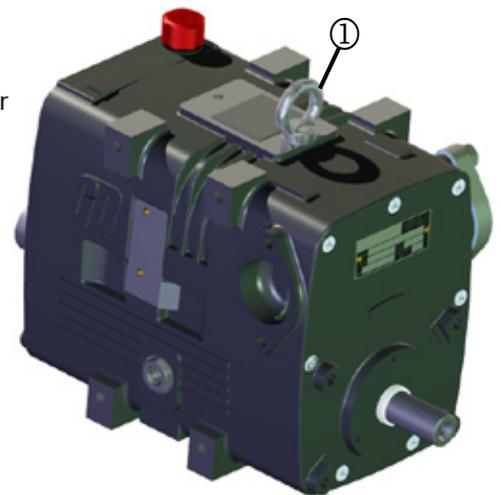

Figure 1. Lifting Eye Bolt
3.2 Lifting (see fig. 1)
- Lift the machine using only the securely mounted ring eye bolt provided. (See Fig. 1/1).